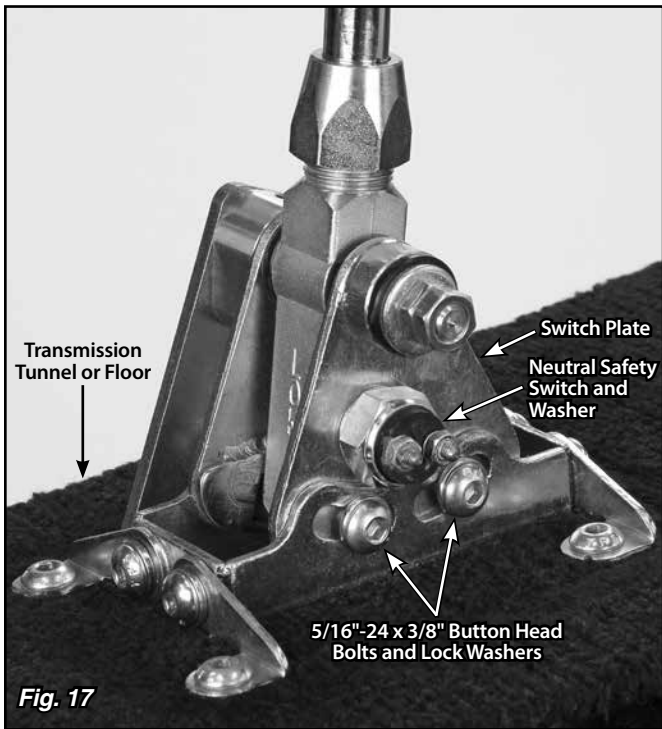

Fig. 17
**Step 23:** Remove the neutral safety switch and washer (**Fig. 17**) from the passenger side of the Shifter using a 7/8" wrench or socket.
**Step 24:** Loosen, but do not remove, the two 5/16"-24 x 3/8" button head bolts and lock washers that attach the passenger side of the floor mount mounting bracket to the switch plate (the bolts are in curved, slotted holes). **Fig. 17**